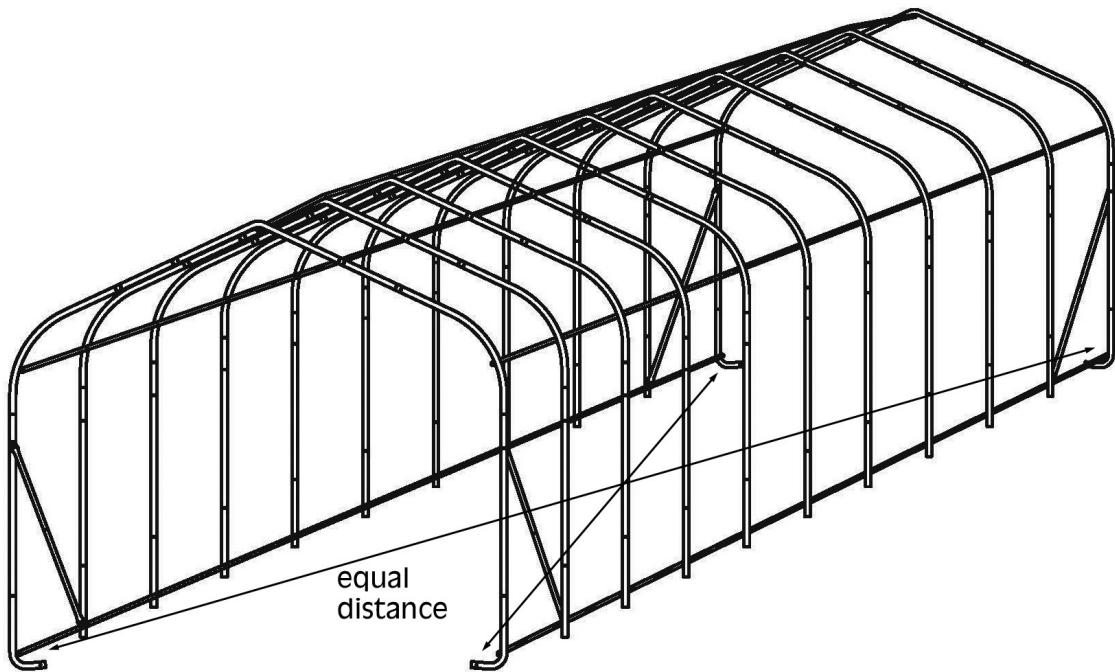

Figure 7
1. When the garage frame is assembled and in it's final location, use the rope (19) to measure the distance between opposite corners, see Figure 7. Mark the rope and check the distance of the other two corners; the distance should be the same. If not, adjust the frame until it is.